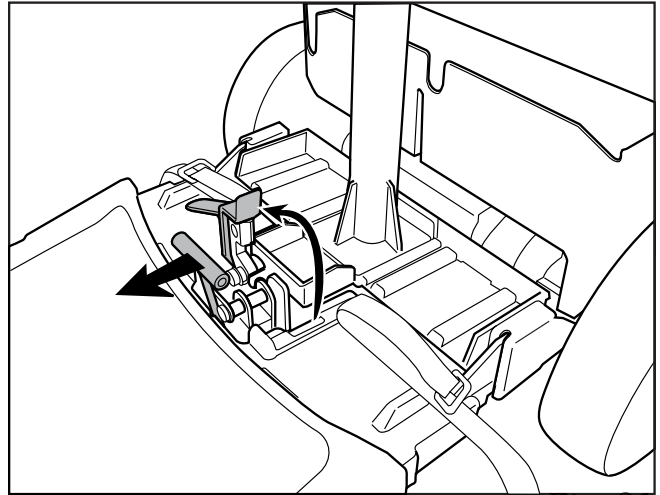

Fig. 21
**9.** Grasp the handle and pull it toward the front of the scooter to release the latch. (Fig. 21)